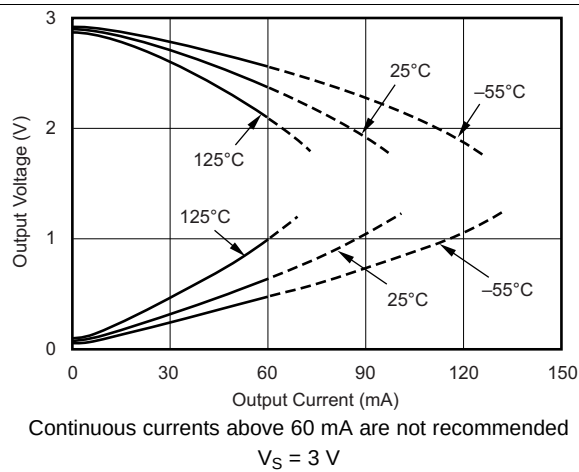
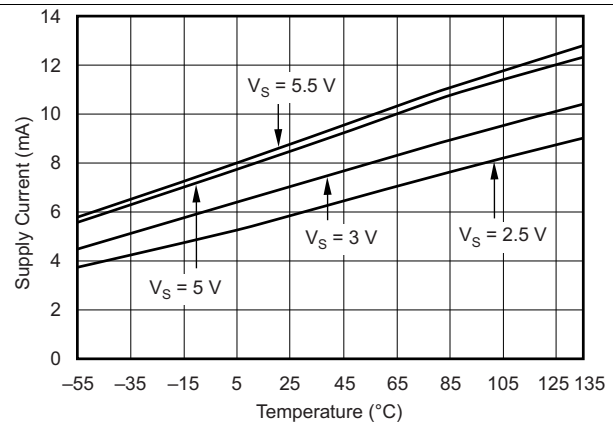
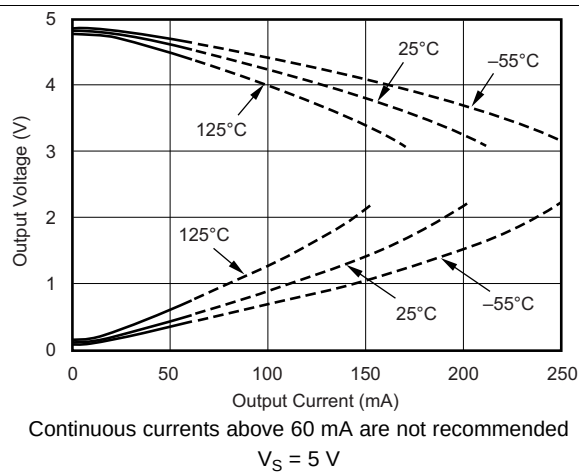

Figure 21. Output Voltage Swing vs Output Current
Figure 22. Supply Current vs Temperature
Figure 23. Output Voltage Swing vs Output Current
(1) See the *Output Voltage Swing vs Output Current* (Figure 21 and Figure 23) in the *Typical Characteristics* section.
Running a continuous DC current in excess of  $\pm 60$  mA is not recommended. See the *Output Voltage Swing vs Output Current* graphs (Figure 21 and Figure 22) in the Typical Characteristics section.